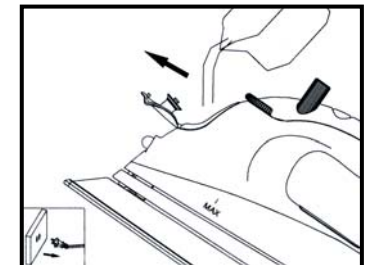

Fig. 1
1. Open the water filling inlet cover. Holding the iron at a slight angle, pour water slowly into the water filling inlet. See figure 1. Fill tank to desired level or to the "MAX" water level marking using the water filling flask. (When the iron is upright, the see-through water tank allows you to gauge the amount of water.) DO NOT overfill the tank. When finished filling the iron with water, close the water inlet cover before continuing.